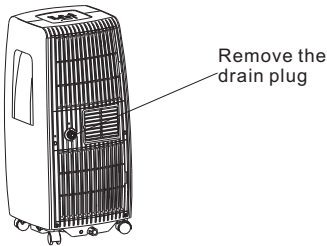

Fig. 21
- During dehumidifying modes, remove the drain plug from the back of the unit, install the drain connector(5/8" universal female mender) with 3/4" hose(locally purchased). For the models without drain connector, just attach the drain hose to the hole. Place the open end of the hose directly over the drain area in your basement floor. Please refer to Fig.21 & 22.